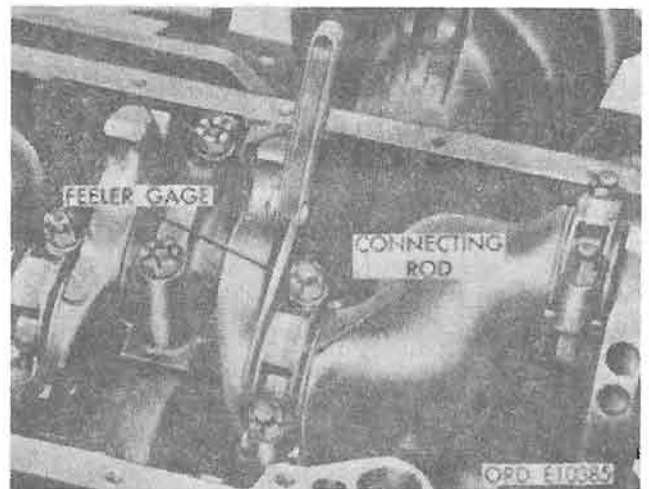

Figure 4-92. Measuring connecting rod side play.
a. Connecting Rod Side Play. With a feeler gage or suitable indicator, check side play of connecting rods on crankshaft and record (fig. 4-92). Refer to repair standards (table 4-7).